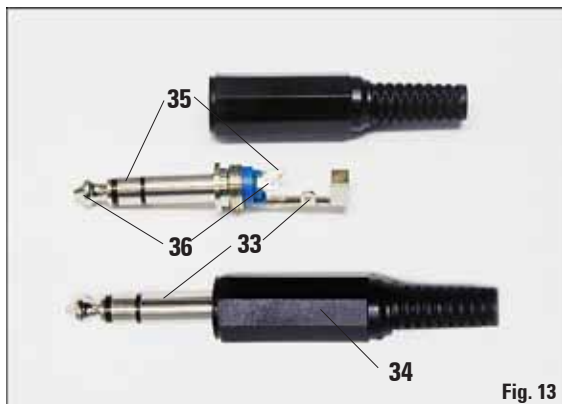

Fig. 13
Each alarm is connected to the plug (34) as follows (see Fig. 13):